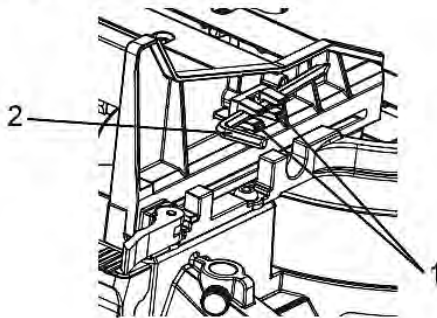

Fig. 13: Saw blade socket wrench
7.7 Saw blade socket wrench (Fig. 13)